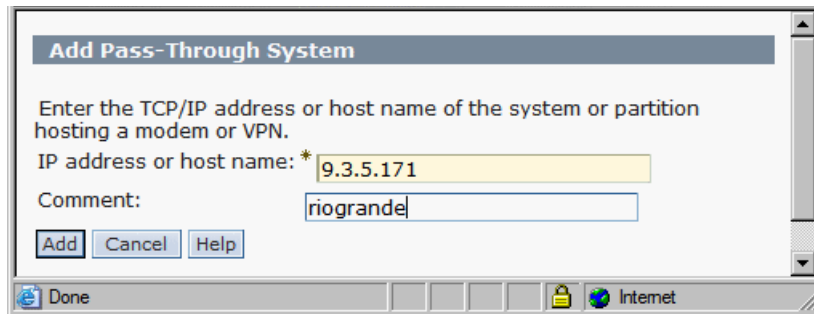

Figure 12-30 Add servers for pass-through access
3. In the “IP address or host name” field, enter either the IP address or the fully qualified host name for the server that you want to add, as well as a comment for the server, then select Add, as shown in Figure 12-30.